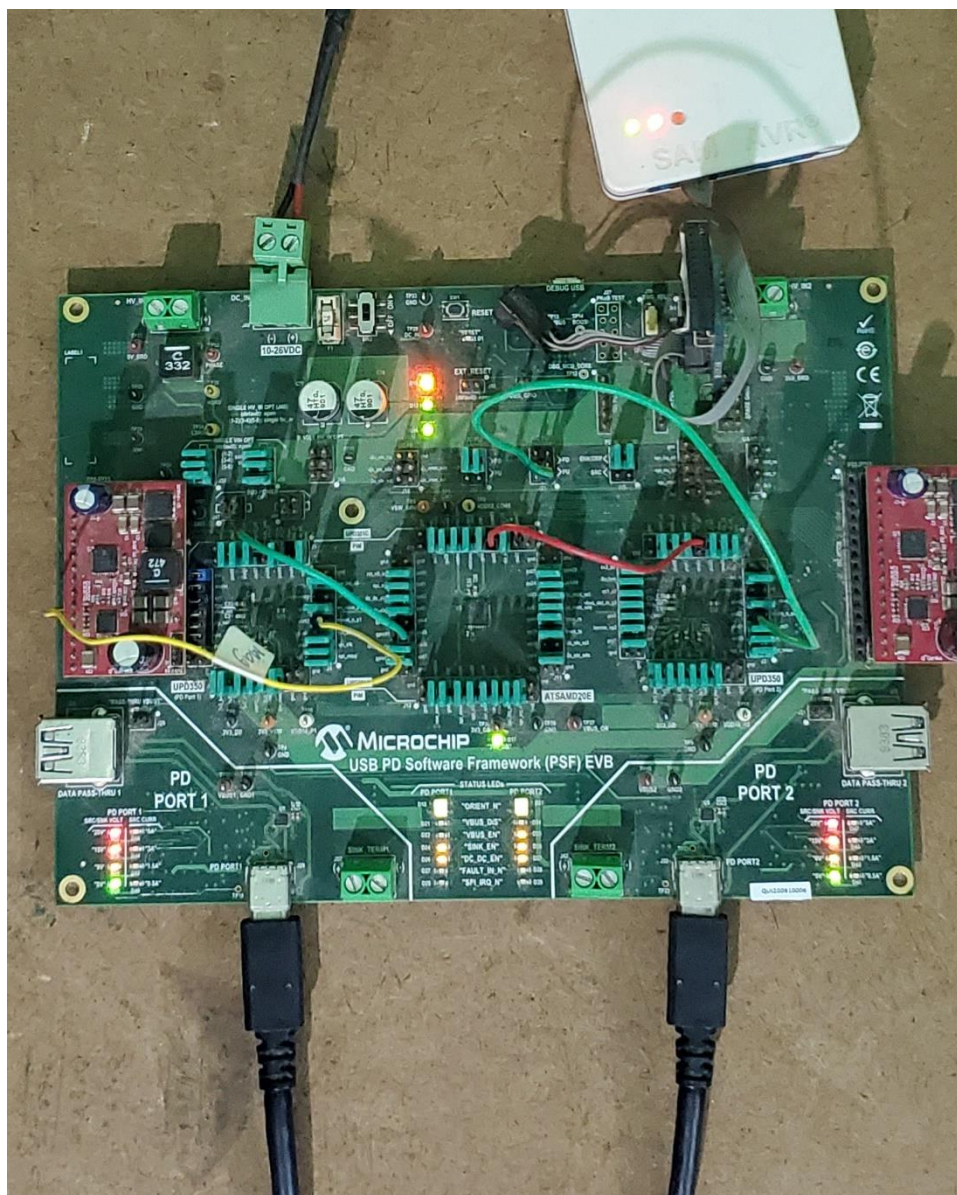

Figure 6.3 Port 1 and Port 2 of PSF before an FRS
1. Connect Port 1 of PSF-EVB to Port 2 using a USB C-C cable. After this step, the PSF-EVB should be setup in the same method as shown in Figure 6.3 Port 1 acts as power sink and Port 2 acts as power source before an FRS.
- Once an explicit power contract is negotiated, Port 2 starts charging. PDO status LEDs will turn on indicating the negotiated voltage as shown in Figure 6.3
- Once an explicit power contract negotiation is in place, Port 2 gets enough power for charging. PDO status LEDs will turn ON indicating the negotiated voltage as shown in Figure 6.3